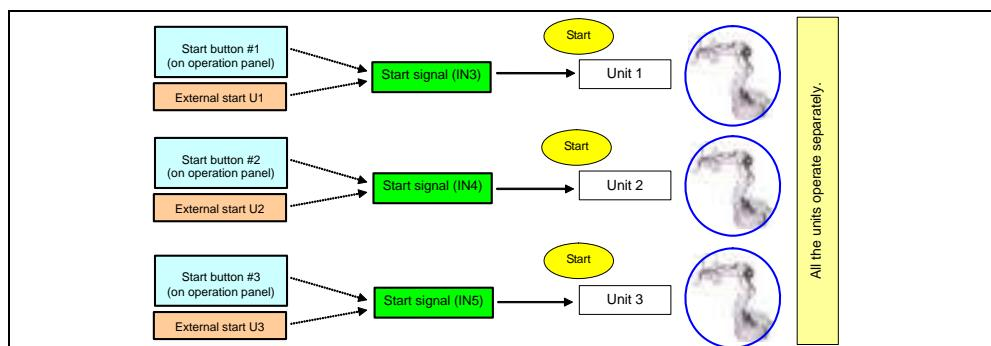

Fig. 1.2.3 Example of separate unit start/shutdown configuration
- Each unit can be started up or shut down separately by the start or stop signal provided for each unit (Fig. 1.2.3)